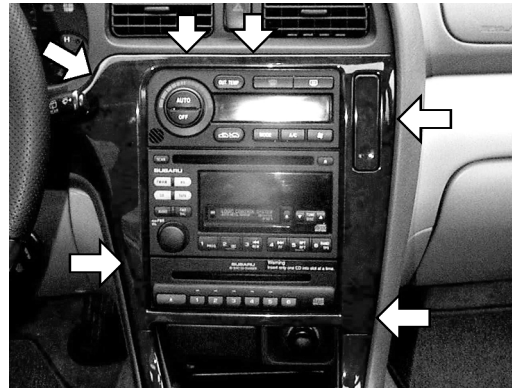

Figure 4
4. Lift the center console cover by carefully pulling outward in areas indicated by arrows in Figure 4.